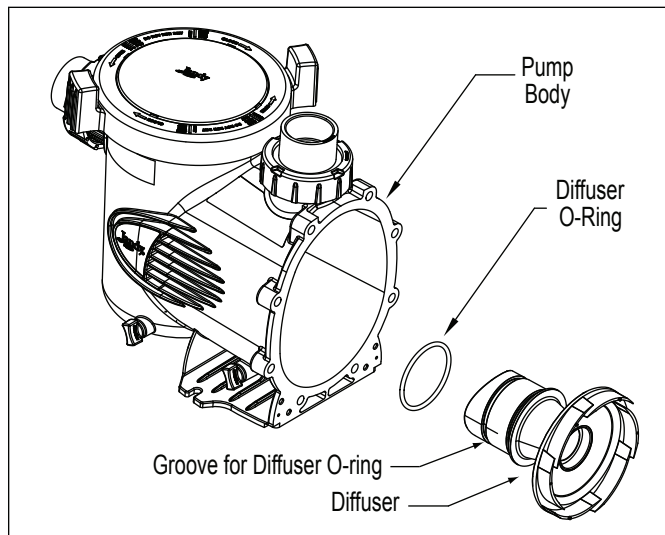

Figure 16. Pump Body and Diffuser Exploded View
6. Replace the two (2) small Phillips-head screws. Tighten the screws to draw the diffuser against the motor backplate.
7. To help prevent an airleak into the system, make sure the diffuser o-ring, o-ring groove, and o-ring seal area are clean and free of debris. If you removed the diffuser o-ring, make sure you install it into the groove you removed it from. (See Figure 16.) If grease is used to retain the o-ring, it **must** be silicone based. **Do not use petroleum-based grease.** It will destroy the o-ring.
8. Slide the diffuser into the mating hole in the pump body. While supporting the motor, start two (2) screws on opposite sides. (This will hold the motor in position while you start the other six (6) screws.)
9. Tighten the screws lightly in a crossing "X" pattern using a 9/16" wrench. Start with the inner (middle) four (4), then the outer (top and bottom) four (4) to draw the backplate to the body in an even manner. Once all the screws are snug, torque in the same order to 18 foot-pounds.
To order or purchase parts for Jandy Pro Series pumps, contact your nearest Zodiac® dealer. You can also contact the Zodiac Technical Support at 800.822.7933. Refer to Figure 16 for the Jandy Pro Series ePump model.